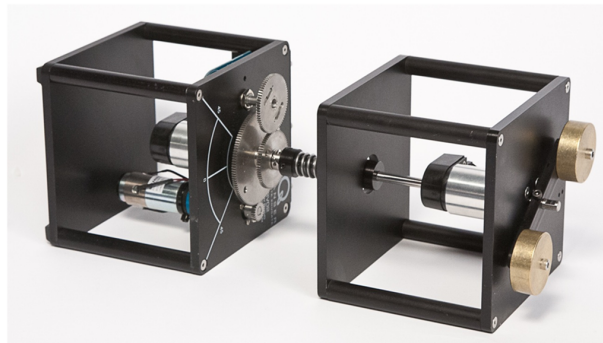

Figure 1.1: SRV02 1-DOF Torsion system
As illustrated in Figure 1.1, below, the assembly made of one rotary Torsion module coupled to a SRV02 servo plant constitutes a one-Degree-Of-Freedom (1-DOF) torsional system. The SRV02 unit lies on its side so that its DC motor and output shaft are horizontal and able to rotate a flexible coupling attached to a rotational load. The torsional load consists of two inertial disc masses, which can be located at different anchor points along their support bar. Several torsion modules can be coupled in cascade to allow for multidimensional control problems (up to seven).
3. To connect the Quanser Torsion Module to the SRV02 as shown in Figure 1.1 above, slide the flexible coupling, ID #3, onto the load output shaft of the SRV02 plant. This is illustrated in Figure 2.2a. Ensure the encoder connector on the torsion module is on the same side as the SRV02 connectors.